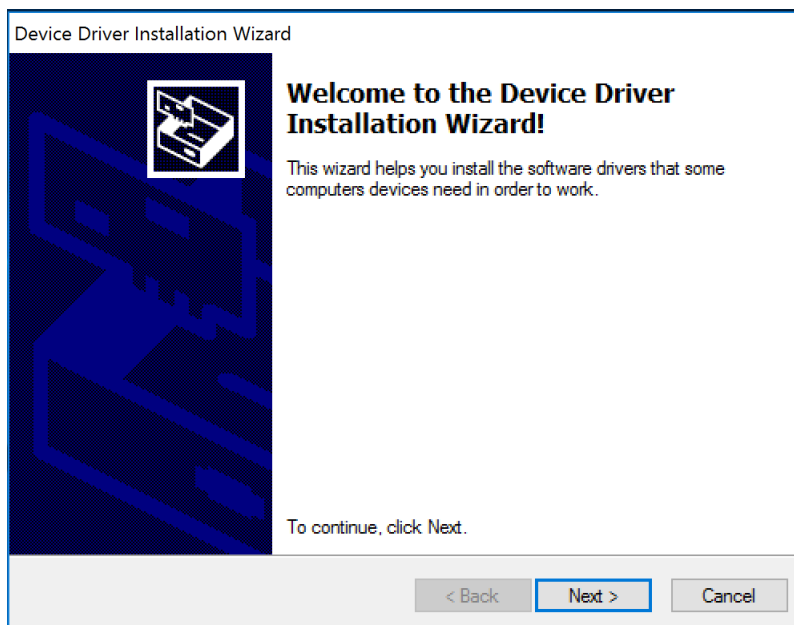

Figure 28. HSDC Pro Install (Continue Installation)
- Click *Finish* to continue installation, as shown in Figure 28.